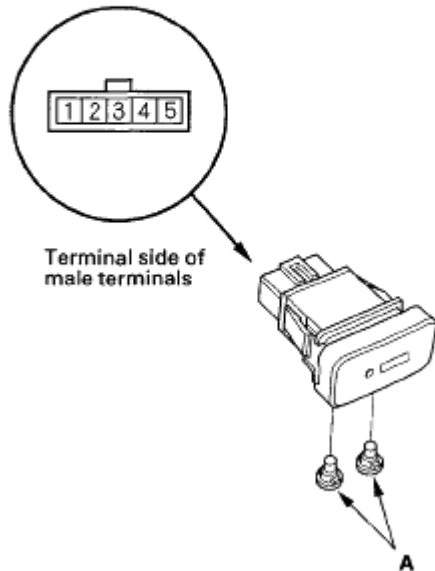

Fig. 4: Identifying Main Switch Terminals
2. Check for continuity between the terminals in each switch position according to **Fig. 4**. If there is no continuity, replace illumination bulbs (A) or the switch.